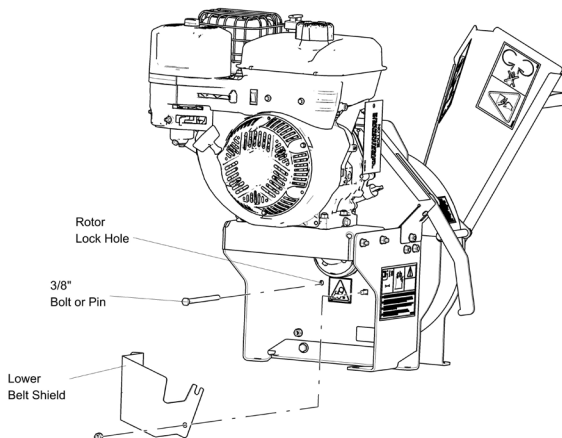

Figure 5.2.1, Rotor Lock
4. Insert 3/8 bolt or pin into hole in rotor housing. Align hole in rotor with the hole in the rotor housing by rotating the rotor. See Figure 5.2.1